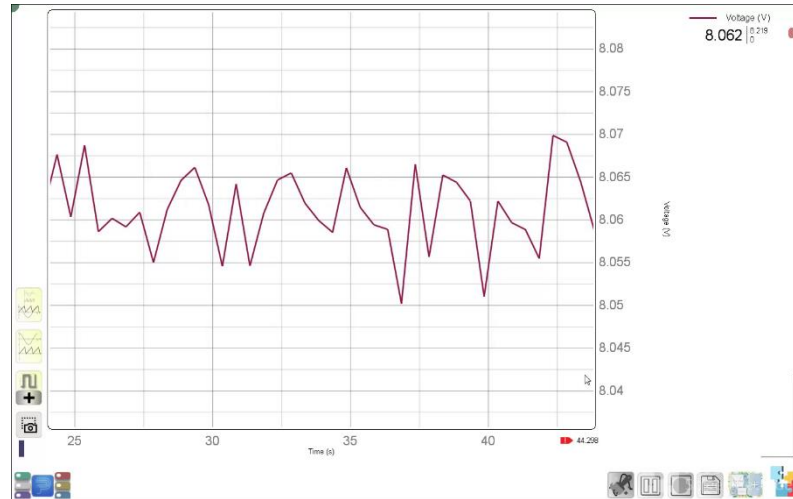

Figure 2: A live plot of the voltage obtained on the PhysLogger Desktop App.
5. A live graph of voltage for the respective channel should appear on the screen. The peak voltage appearing on the graph should be 7.98 V to 8 V (for a battery of 8 V) as shown in Figure 2. (You may confirm the voltage of the battery using a multimeter as well.)